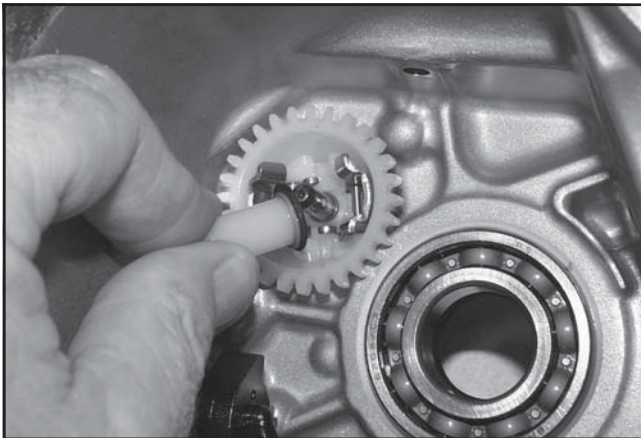

Figure 9-54. Removing Governor Assembly Cup and Washer.
1. Remove the cup and washer from the governor gear. See Figure 9-54.